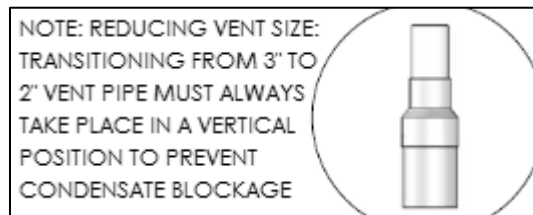

Figure 8 – Transitioning from 3" to 2" Vent Pipe
5. For 2" installations, install the reducing coupling in a vertical section of pipe. At least a 6" length of 3" pipe MUST BE INSTALLED before reducing to 2". See Figure 8.